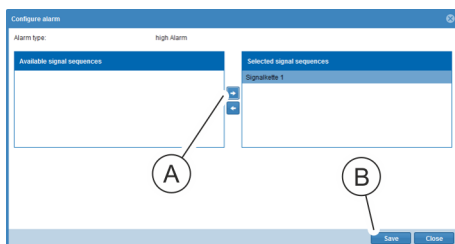

Fig. 128: “Configure alarm” window
7. ➤ Select a signal sequence in the “Configure alarm” window and use the “→” button (Fig. 128/Ⓐ) to move it into the “Selected signal sequences” field. Confirm the selection by clicking the “Save” (Fig. 128/Ⓑ) button.